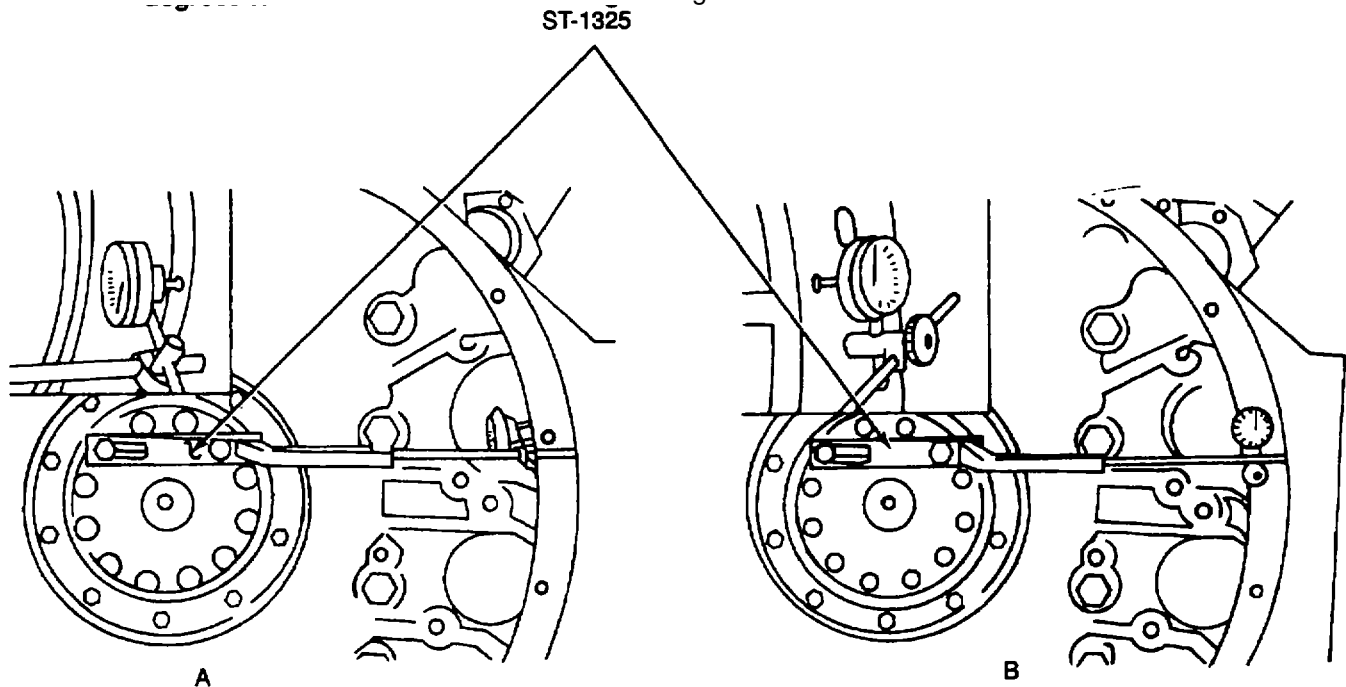

Figure 9-65. Checking Flywheel Housing Alignment
- (a) See Figure 9-65. Attach dial gage attachment, ST-1 325, and dial indicator to the crankshaft, and position the indicator button on the housing bore (A, Figure 9-64).
- (e) Move the dial indicator to the face of the flywheel housing (B, Figure 9-65).